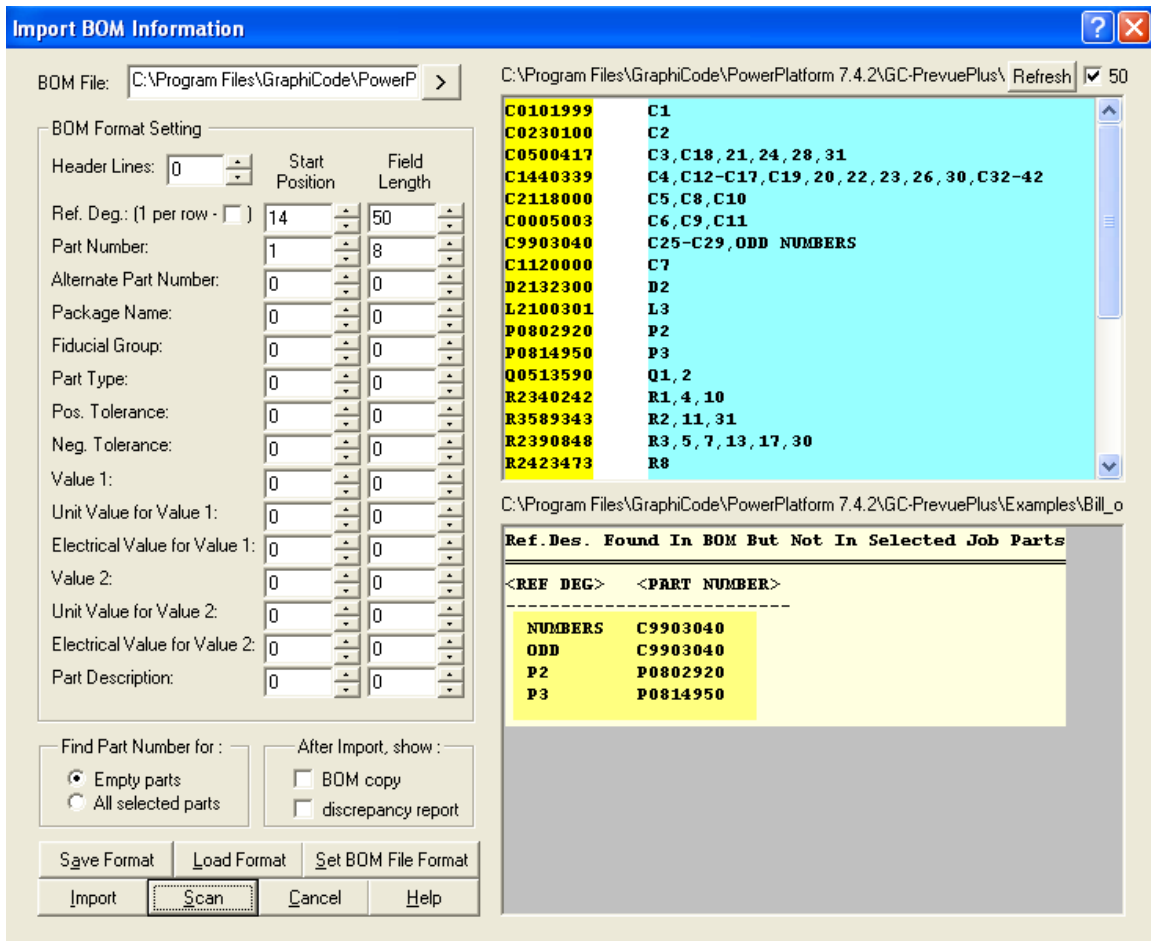

Figure 51
3. Click the Import button. The import results window will appear, reporting the number of parts selected and the number of parts that were successfully imported – See Figure 51: